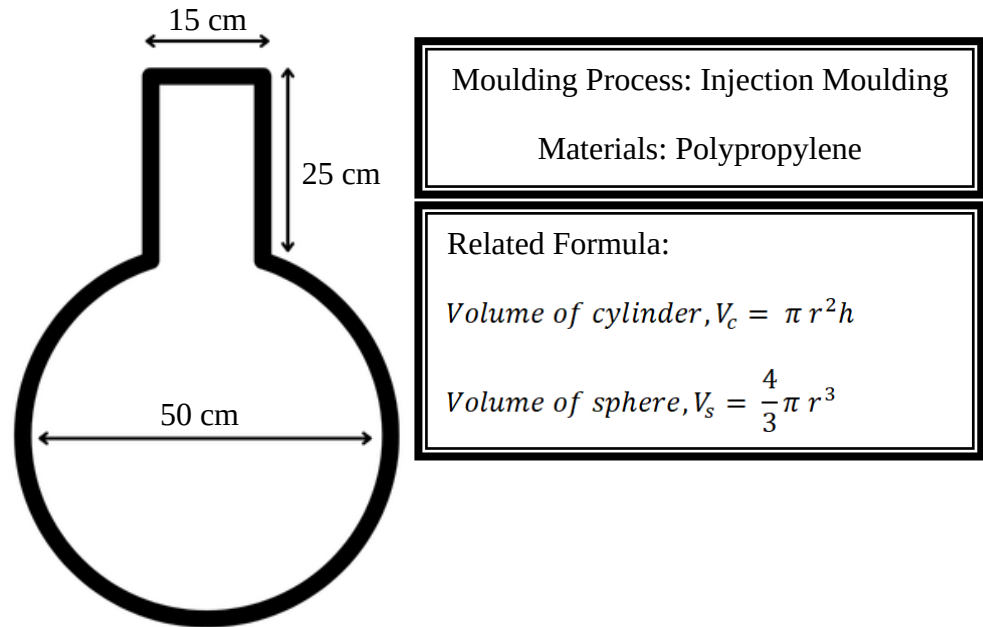

Figure 4b(ii): Preform Information / Rajah 4b(ii): Maklumat preform
- ii. Based on the blow-up ratio of blow moulding, calculate the final maximum achievable volume of the preform shown in Figure 4b(ii).